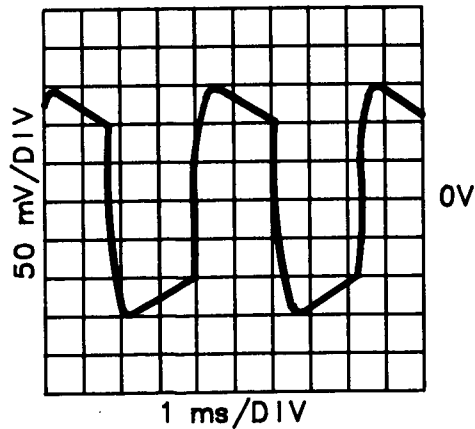

Figure 8-5. A4U7 pin 3 Range Attenuator 1 Waveform
8. Connect the oscilloscope to A4U7 pin 3. Verify the signal shown in Figure 8-5. The signal level should be 0.12 V_{p-p} ± 0.01V.